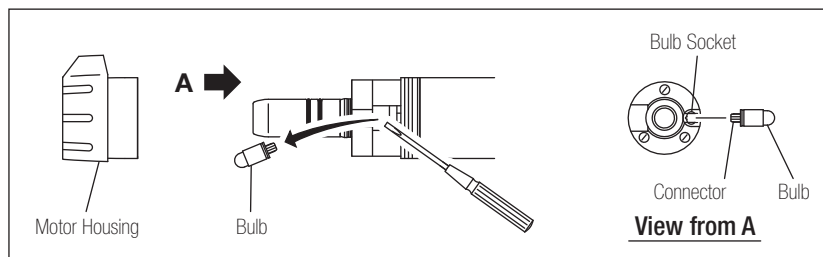

Fig. 22
- 1) Loosen Motor Housing and detach from the motor, and remove the old light bulb using the small pin, like the precision screwdriver. (Fig. 22)